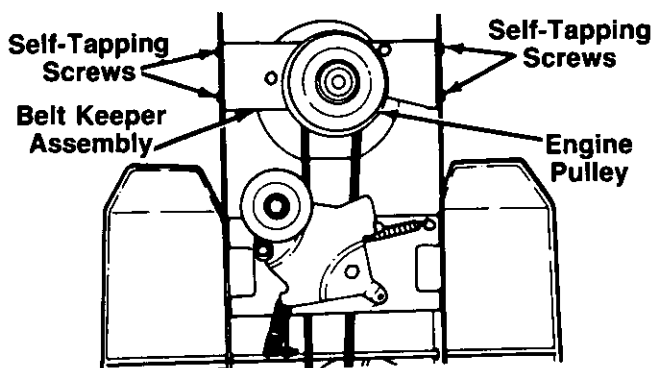

FIGURE 19.
- Remove the four self-tapping screws which hold the belt keeper assembly to the frame at the engine pulley. Push the belt keeper assembly forward, out of the way. See figure 19.